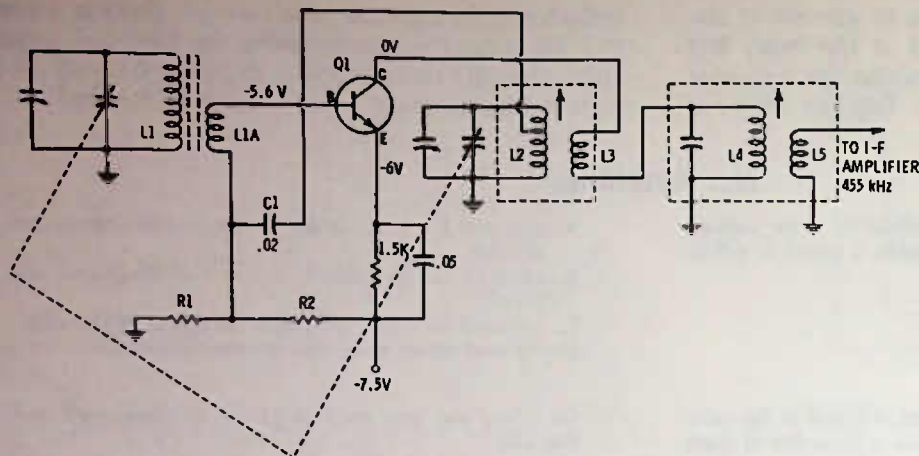

Fig. 10-7. Circuit for Questions 18 through 24.
18. In Fig. 10-7, if the collector voltage reads about -7 volts to ground you would suspect that
19. In Fig. 10-7, judging from what you know about transistors, the one used is
20. In Fig. 10-7, the bias voltage on Q1 is
21. In Fig. 10-7, assuming the voltages shown are correct, the collector current of Q1 is approximately
22. In Fig. 10-7, the tuning capacitor across L1 normally
23. In Fig. 10-7, the oscillator feedback is fed from the collector circuit to
24. In Fig 10-7, if L3 should open so that no current could flow in the collector circuit, the voltage from the emitter of Q1 to ground should be about